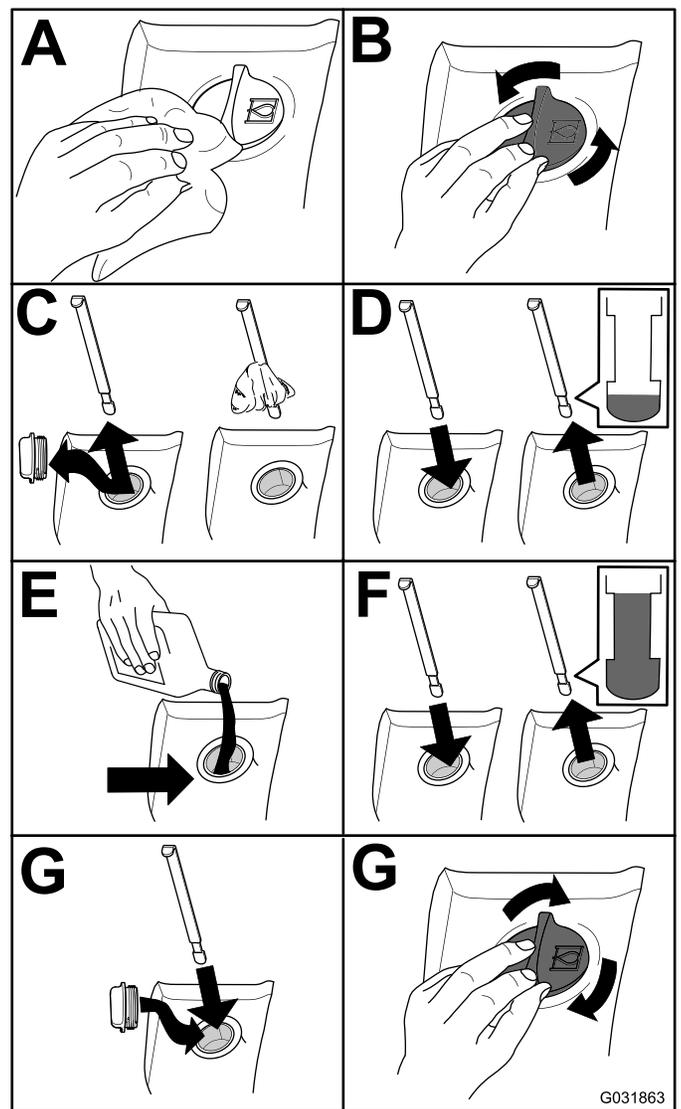

Figure 103
2. Check the hydraulic-fluid level (Figure 103).